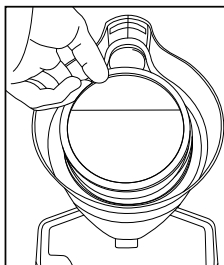

Fig. 3
2. Remove the white High Flow filter by grasping the top of the filter and pulling straight up (Fig. 3).
3. Remove the white High Flow filter by grasping the top of the filter and pulling straight up (Fig. 3).